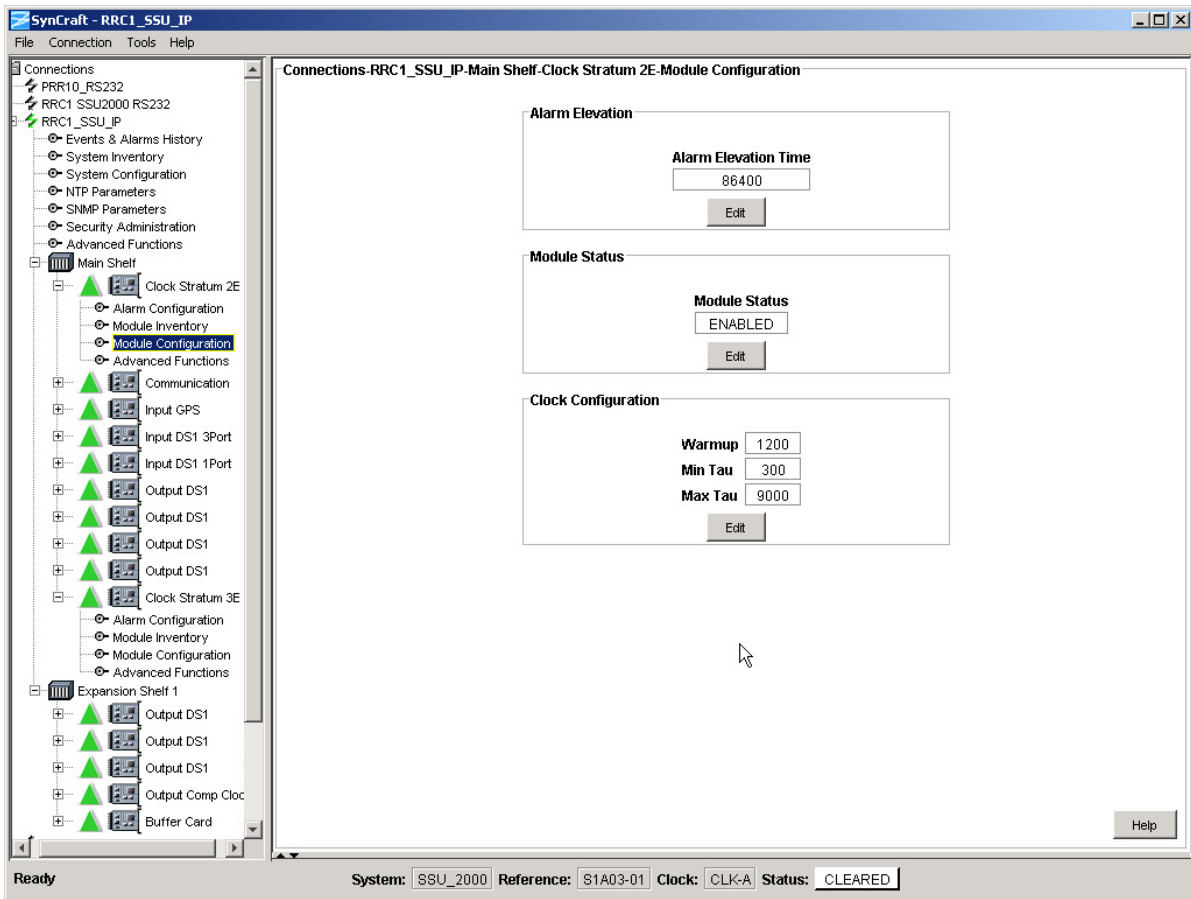

Figure H-11. Primary Clock Module Configuration Screen
8. Select the Main Shelf and then select the first Clock module in the menu. Expand the Clock module and select Module Configuration. A display similar to that in Figure H-11 appears.